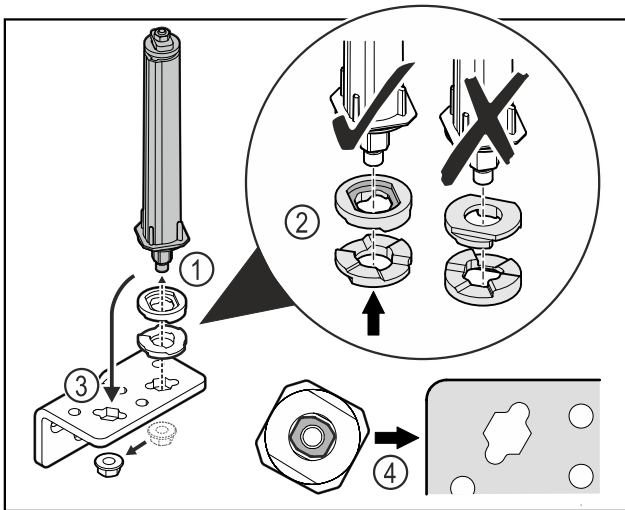

Fig. 38
- ▶ Loosen the nut and remove the door closing system Fig. 38 (1).
- ▶ Observe the correct alignment of the height adjustment washers Fig. 38 (2).
- ▶ Put the door closing system in the hinge fix in place with the nut Fig. 38 (3).
- ▶ Observe the correct alignment of the door closing system when doing so Fig. 38 (4).